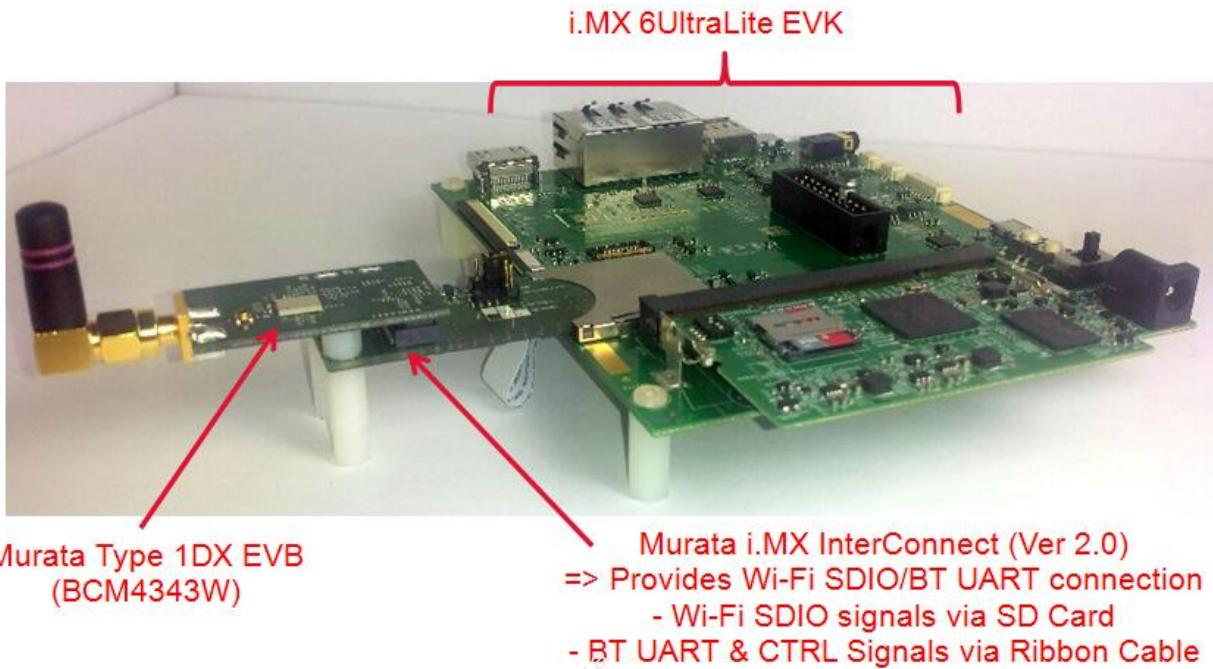

Figure 38: Murata Type 1DX Kit plugged into Freescale i.MX 6UltraLite EVK using Version 2.0 Adapter
i.MX 6UltraLite EVK (Rev C) and Murata i.MX InterConnect Ver 2.0 Adapter Board provides Wi-Fi/BT connectivity by default with no rework required. However if out-of-band interrupts are desired, then a minor resistor change is necessary on Freescale EVK (to connect WL_HOST_WAKE signal). Figure 38 shows Murata Type 1DX Kit plugged into Freescale i.MX 6UltraLite EVK using Version 2.0 Adapter.